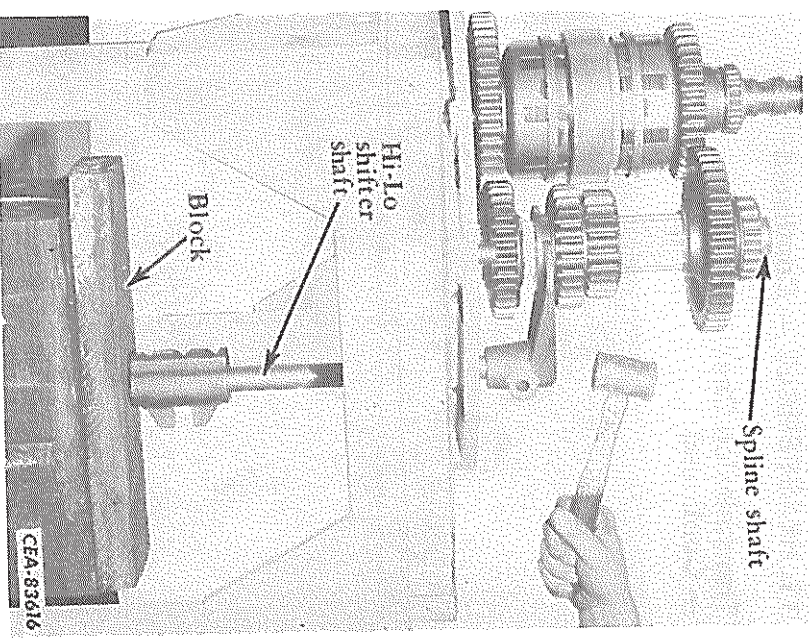

FIG. 79 — Installing the Hi-Lo Shifter Shaft and Fork
45. Place the front cover in the stand or on blocks with the forward clutch shaft up. Set the spline shaft into the front cover (Fig. 79).
46. Install the hi-lo shifter fork on the sliding gear with the long part of the fork hub facing toward the front cover. Slide the shifter shaft through the bushing in the front cover and through the shift fork until the slot in the shaft is in the center of the fork. Secure the fork to the shaft with a capscrew and nut. If the shifter shaft is tight entering the fork, block the shaft and tap the fork into place (Fig. 79).